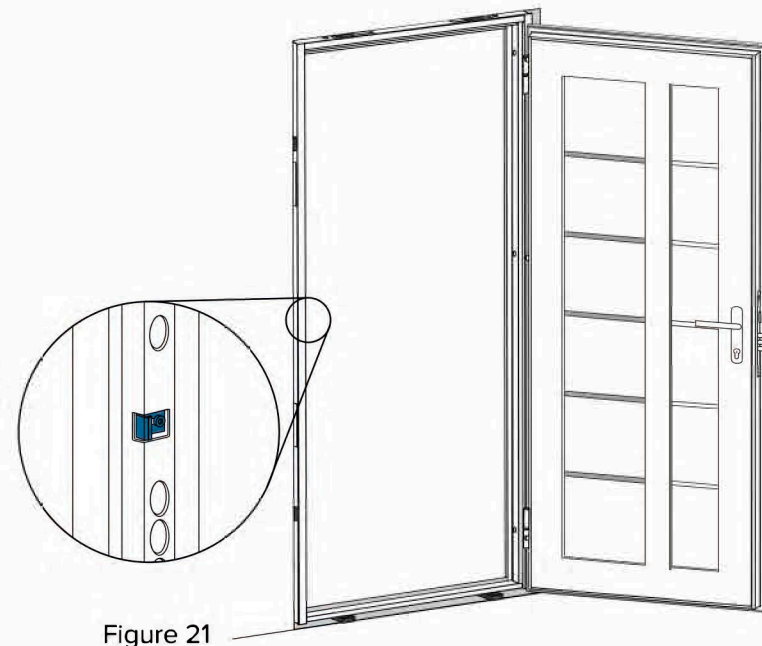

Figure 21
3.18. Adjustment of adjoining of the leaf contact (figure 21):